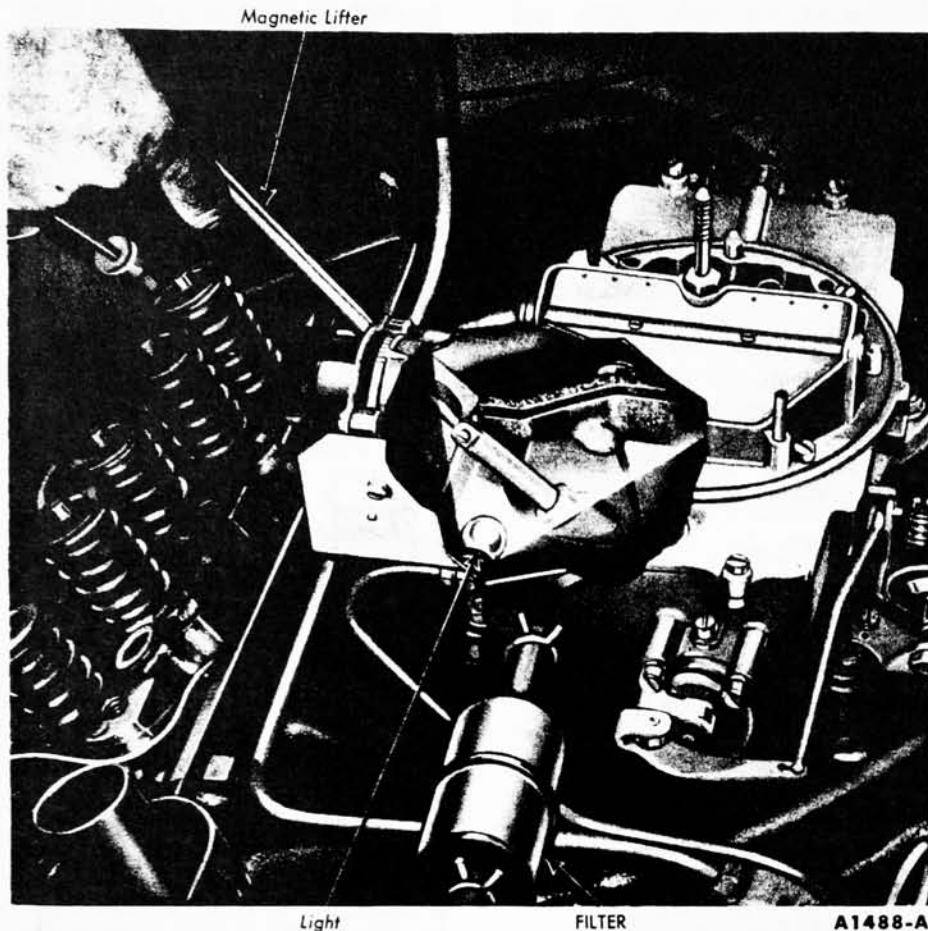

FIG. 63—Valve Lifter Replacement—Intake Manifold Installed
5. Position an inspection light through a push rod opening and into the valve push rod valley (Fig. 63). Remove the valve lifters with a magnet through the push rod openings. In some cases, it will be necessary to transfer the lifter over to an adjoining push rod opening in order to remove it. Place the lifters in a rack so that they can be installed in their original positions.
2. Position an inspection light through a push rod opening and into the valve push rod valley (Fig. 63). Remove the valve lifters with a magnet through the push rod openings. In some cases, it will be necessary to transfer the lifter over to an adjoining push rod opening in order to re-
3. Install the new (or cleaned) hydraulic valve lifters through the push rod openings with a magnet (Fig. 63).